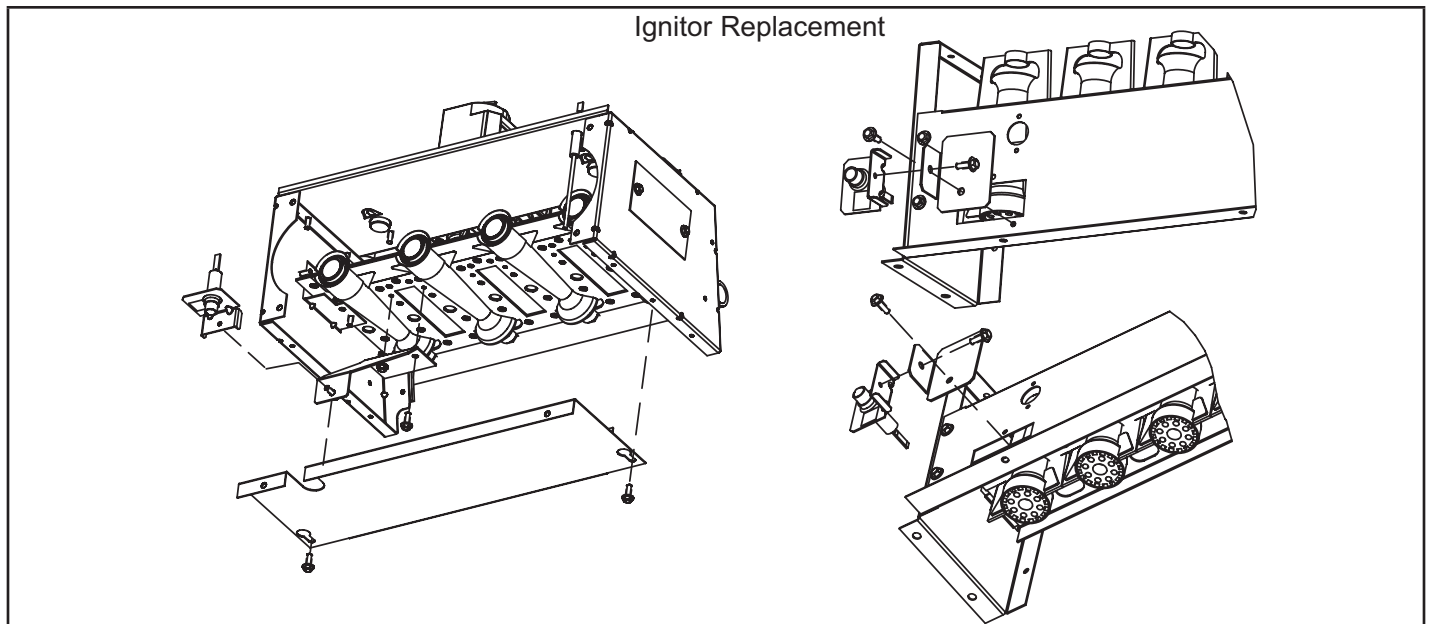

FIGURE 3
8 - Remove the existing hot surface ignitor and its mounting bracket from the burner assembly. Install the replacement ignitor and appropriate new mounting bracket per Figure 3.
- 8 - Remove the existing hot surface ignitor and its mounting bracket from the burner assembly. Install the replacement ignitor and appropriate new mounting bracket per Figure 3.